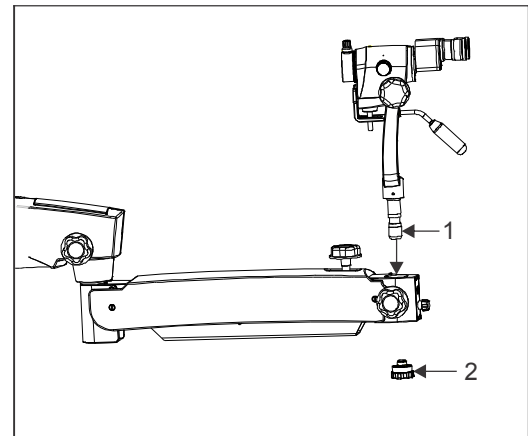
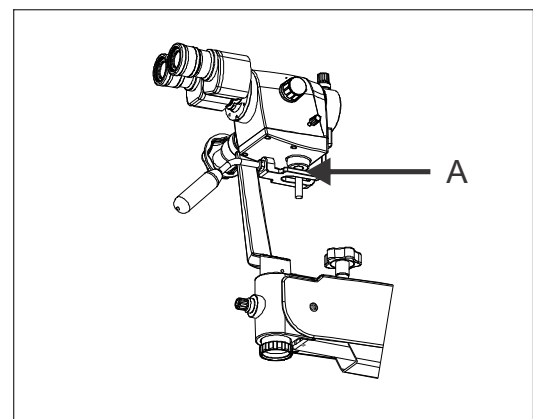

Fig. 4
Fig. 5
7.4 Retrieve the carrier assembly from the packing and follow as below refer Fig. 4.
- Install the coupling to the suspension arm by sliding the guiding shaft (1) to the suspension arm.
- Lock the inclined coupling with the threaded plug (2).
- Insert the light guide into the receptacle in the microscope till it clicks into position as shown as A in Fig. 5